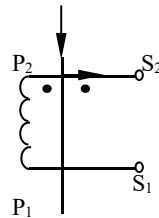

Fig 2
- ② The coil diagram is shown in Fig 2: